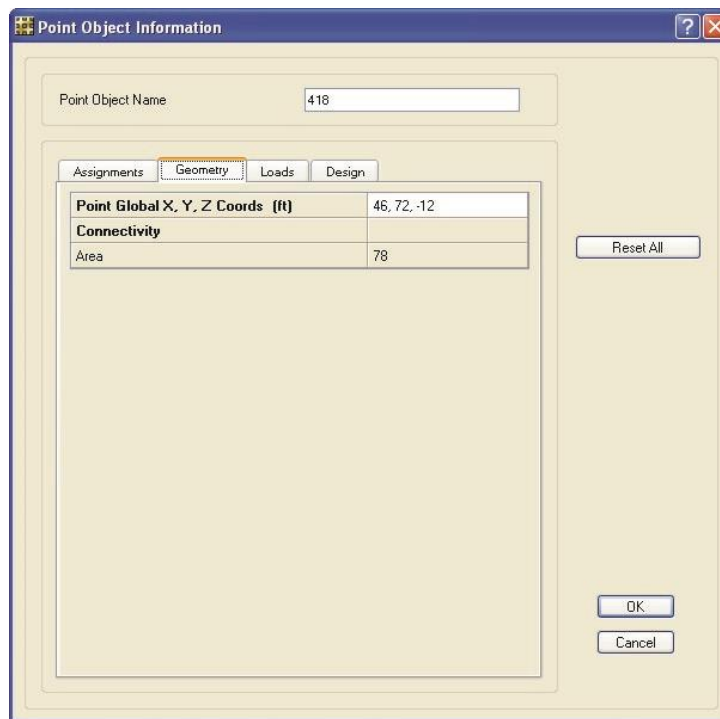

Figure 26 Point Object Information form
- I. Highlight the first point object and click the **OK** button. Because a right click action initiated the selection process, a Point Object Information form similar to the one shown in Figure 26, will display.